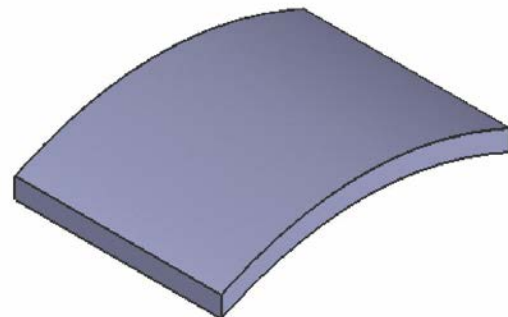

Figure 11-72 The second feature created
3. Choose the **OK** button. The resulting surface model is shown in Figure 11-72.